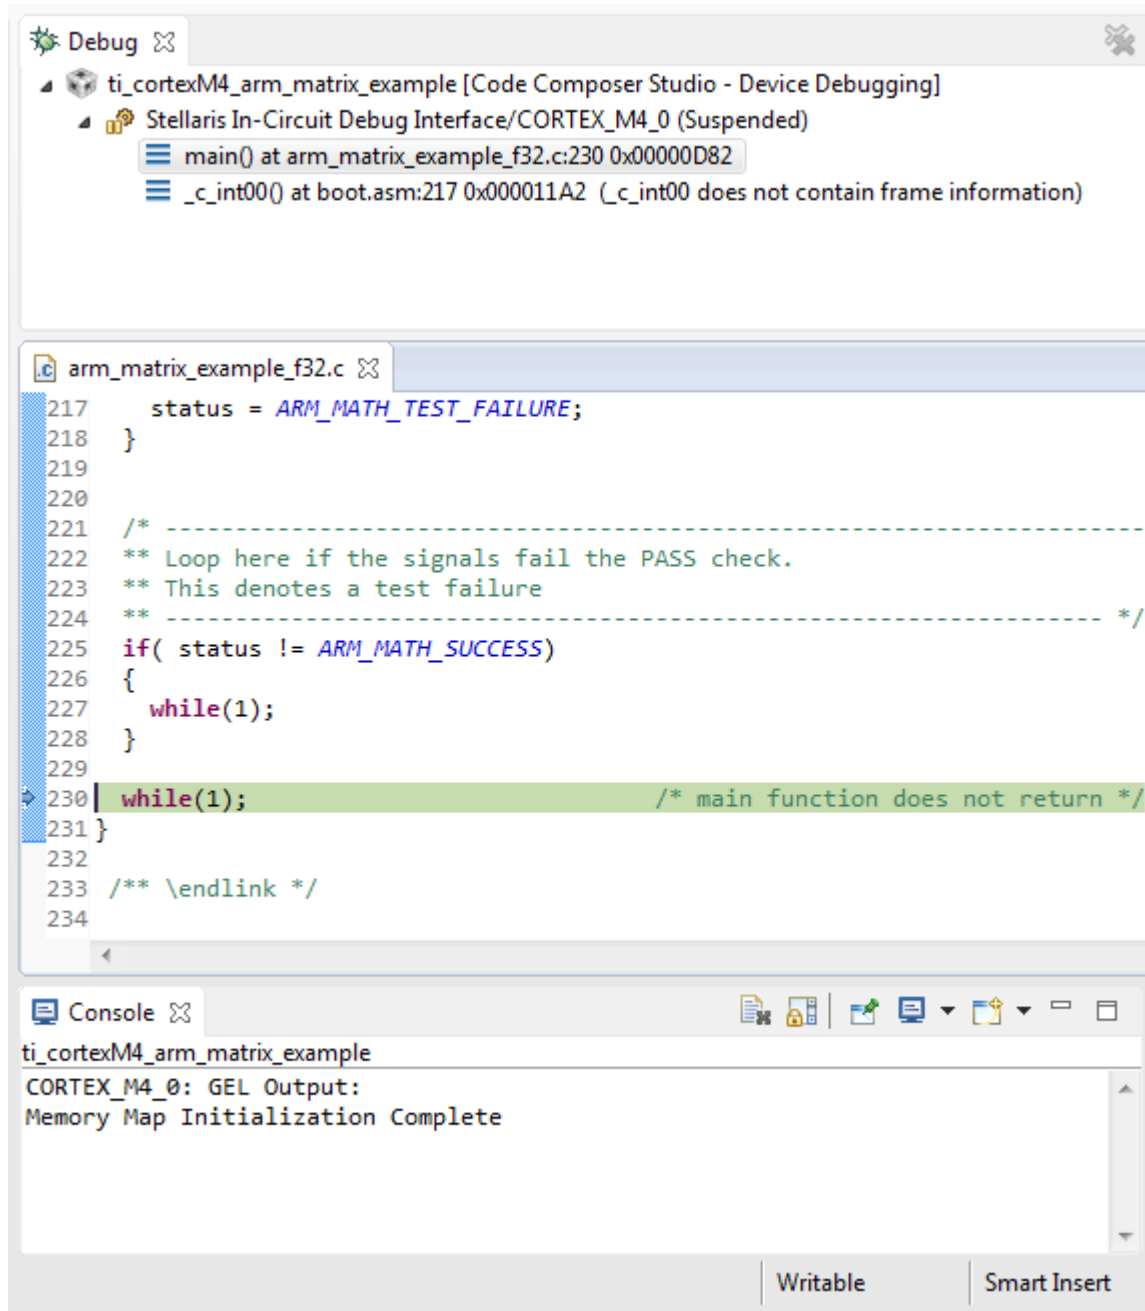

Figure 27. The arm_matrix_example Project Having Run to Successful Completion
- After a few seconds have passed, the program will run to completion (see Figure 27). Press the suspend button, which will halt the processor and show you what line of code is being executed.